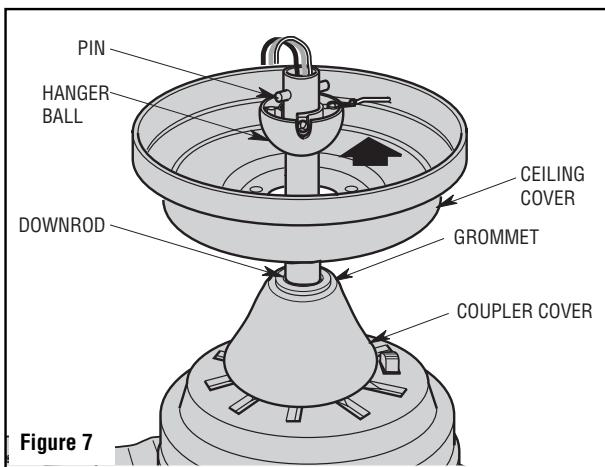

Figure 7
- Make sure the grommet is properly installed in the coupler cover, then slide the coupler cover on the downrod until it rests on the motor housing. Place the ceiling cover over the downrod. Be sure that the ceiling cover and the coupler cover are both oriented correctly (Figure 7).
- Reinstall the hanger ball (Figure 7) on the downrod as follows. Route the three 80" motor leads through the hanger ball. Position the pin through the two holes in the downrod and align the hanger ball so the pin is captured in the groove in the top of the hanger ball. Pull the hanger ball up tight against the pin and securely tighten the setscrew in the hanger ball. A loose setscrew could create fan wobble.